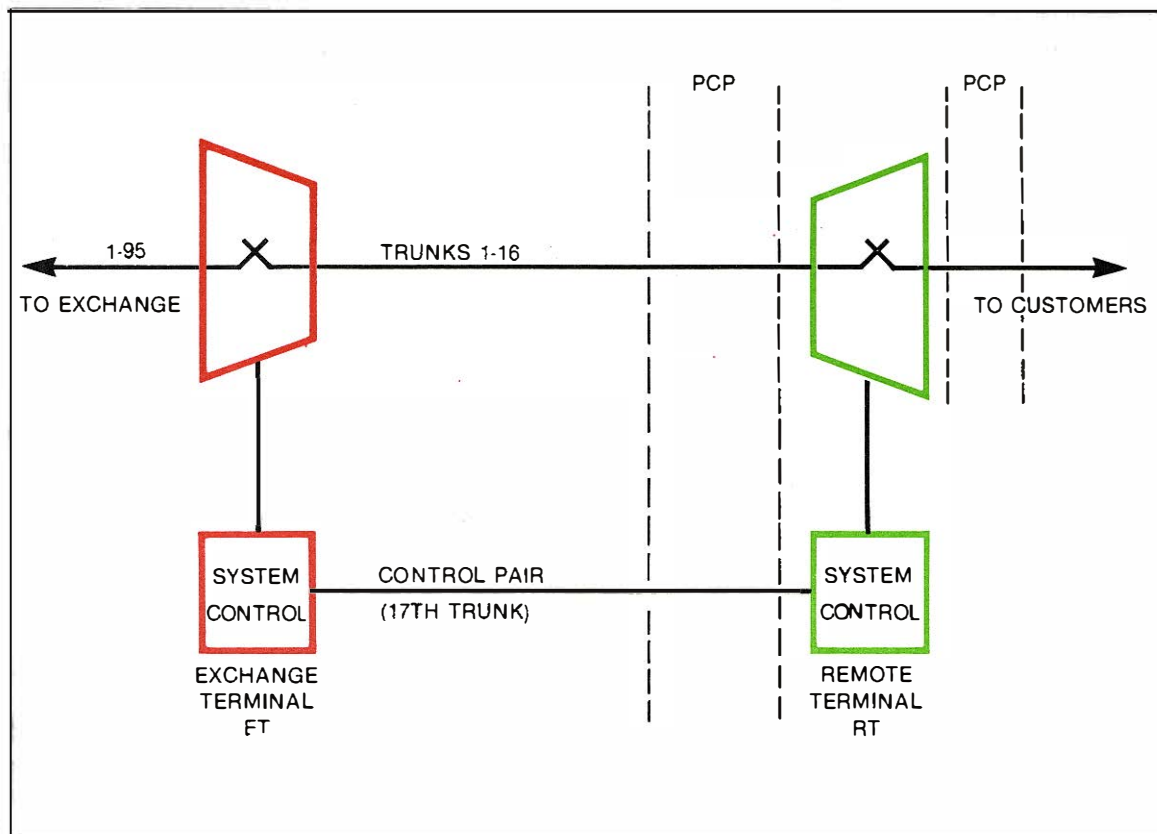

Fig 1
Briefly the system comprises an Exchange Terminal (ET) and a Remote Terminal (RT) both of which contain a system control and mini crossbar switch. It enables up to 95 customers to share 16 cable pairs, or trunks, between the exchange and PCP (see Fig 1). An additional cable pair is required to form a link between the ET and RT system controls and a further pair is used to provide speaker facilities for installation purposes. The Trunks are numbered 0-15 and the customers from 0-95 although subscriber 0 is used for test purposes only.